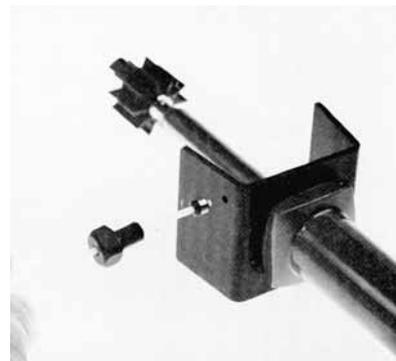

Fig 2. Measuring the tubing protuberance.
4. Grasp the tubing with the tubing clamp behind the nipple. Insert the tubing into the small hole in the black support on the flanging tool (figure 2), and slide the nipple up to the support. Reposition the clamp closely behind the nipple. This ensures that the correct length of tubing (1.5 mm) protrudes for flanging.